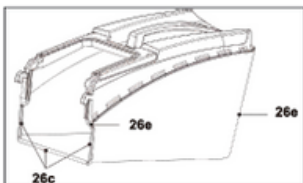

Fig. 4
1. Attach the rubber clips (26c) to the rod (26e) if they are not pre-installed (Fig. 4).
2. The grass catcher (26) is now ready for use (Fig. 4).